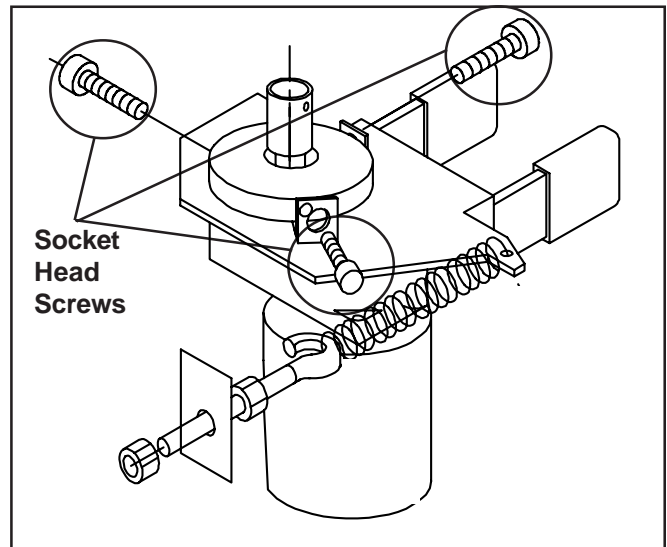

Figure 43. Drive Motor Removal
4. Remove the three socket head cap screws securing the mounting flange to the bearing (Fig.43). Remove the drive motor from either side.